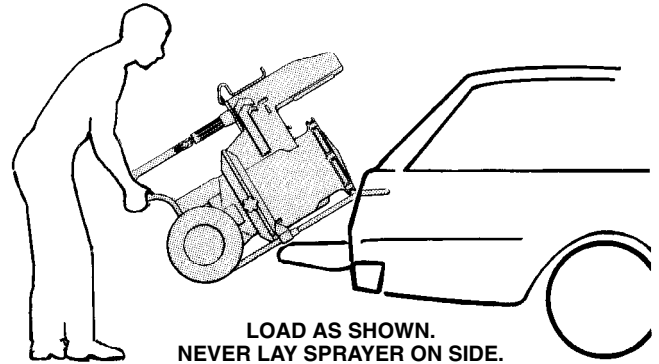

Fig 8
- 10 To transport the sprayer , empty the wet-cup, or reduce the level of Throat Seal Liquid to 1/3 full or less and stuff a rag into the wet-cup. Load the sprayer as shown in Fig 8. To avoid leakage of hydraulic fluid, never lay the sprayer on its side.